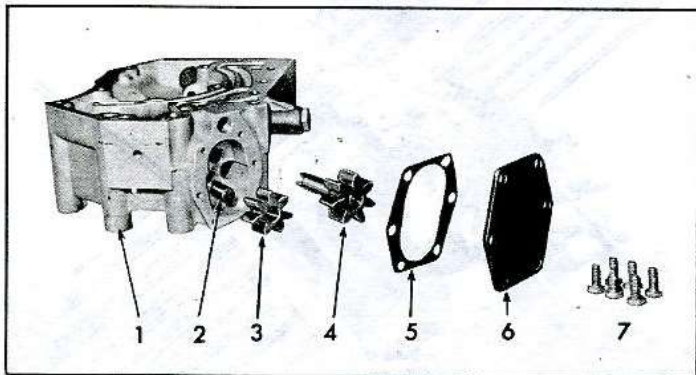

Fig. 112—Oil Pump—Exploded View
1. Remove pump cover attaching bolts, cover, gasket, idler gear and drive gear and shaft (fig. 112).